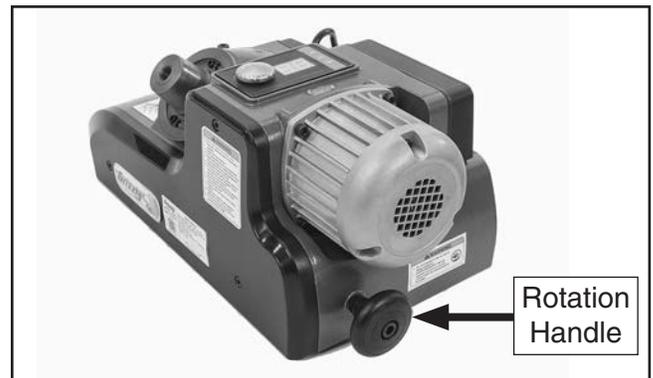

Figure 11. Rotation handle installed.
5. Attach rotation handle to power feeder (see **Figure 11**) using pre-installed cap screw, flange nut, and (2) flat washers.